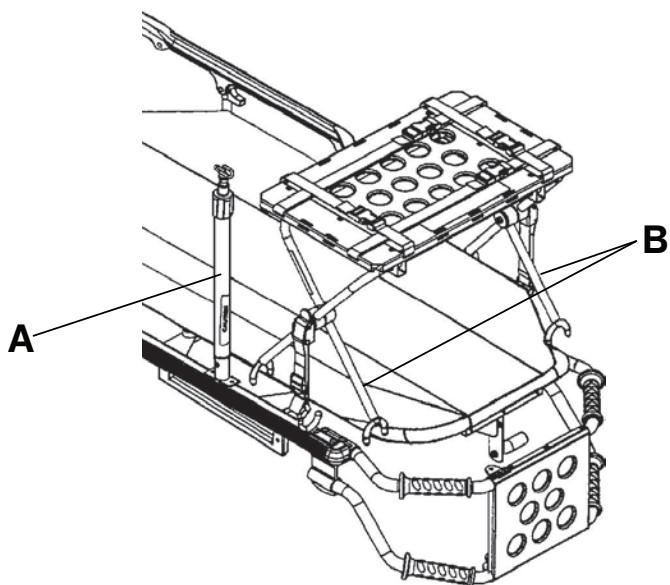

Figure 38 – Raise IV pole and position defibrillator tray (Model 6506 shown)
3. If the product is equipped with an IV pole, raise the IV pole (A) to the up position (Figure 38).
5. Position the inside legs (B) of the defibrillator platform toward the head end of the product (Figure 38).